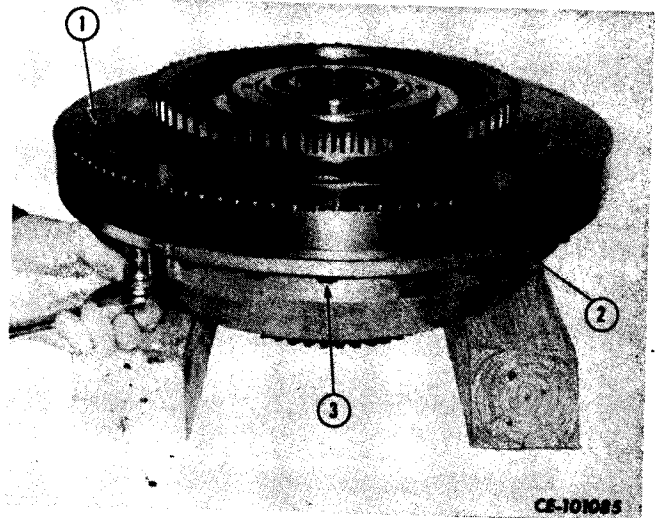

Figure 3-21
Remove cap screws (3, Fig. 3-21) that secure impeller (2) to drive housing (1).